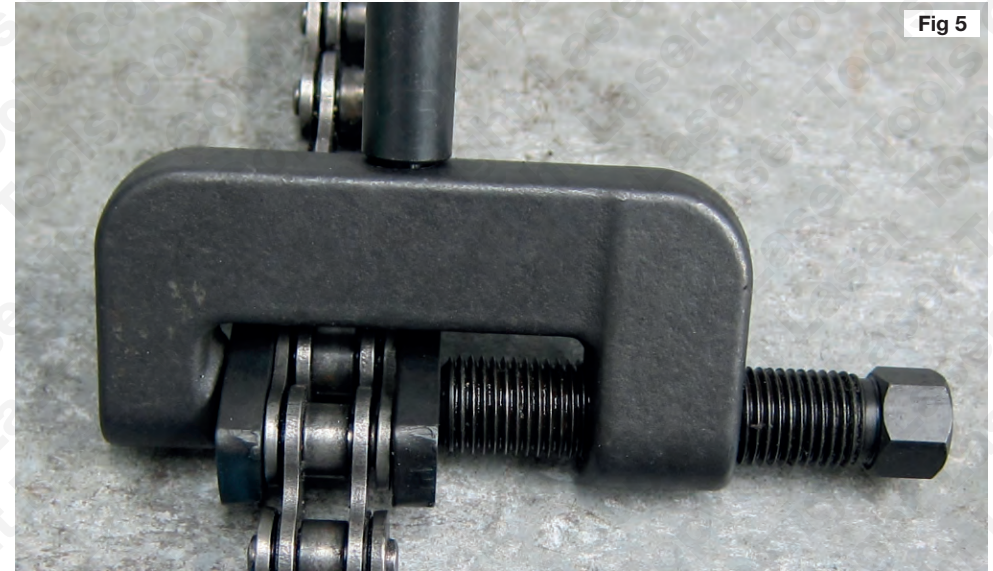

Fig 5
4. Using the side clamp pieces (O) as shown below ensure the side plates are pushed fully on to the pins being careful to ensure the holes in the side plates are aligned with the pins. See Fig 5.